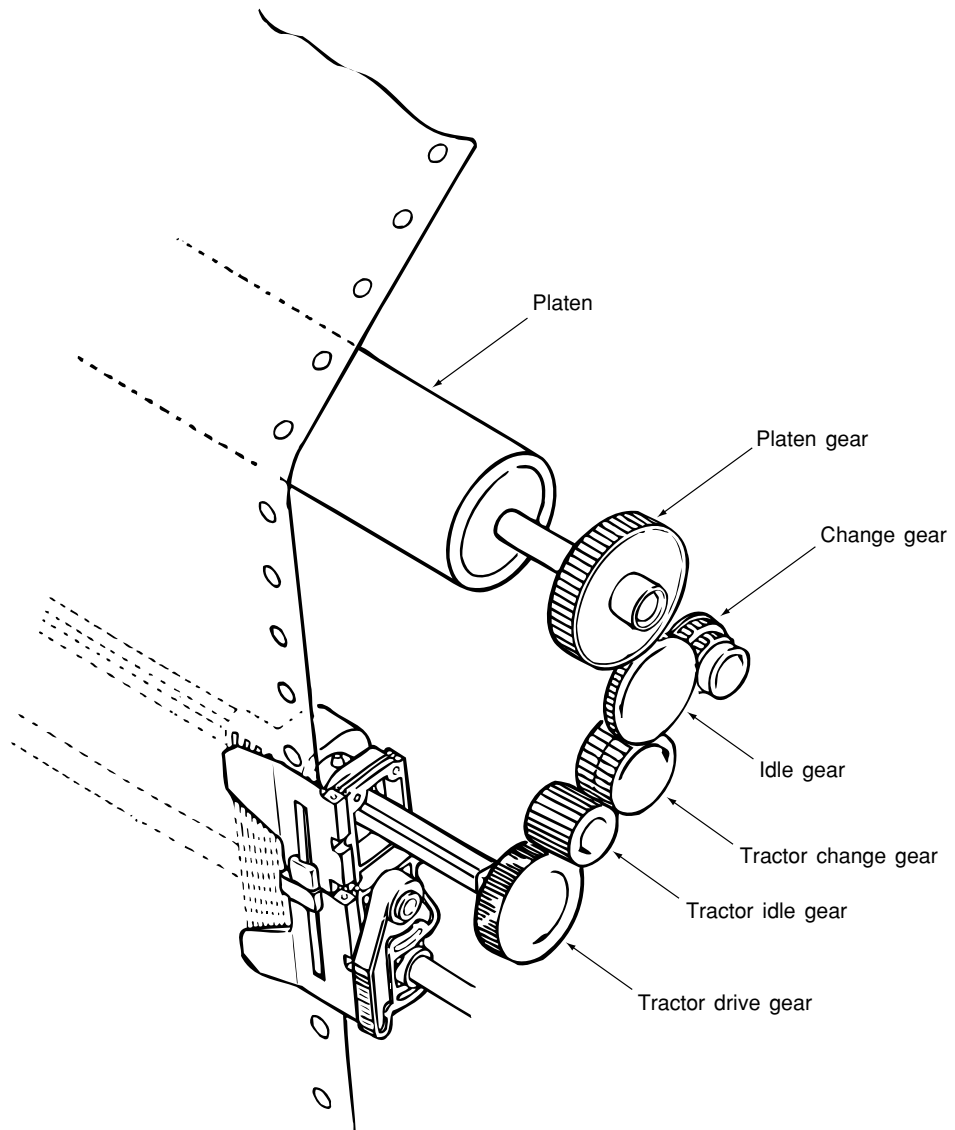

**Figure 2-12**
(5) Pull tractor mechanism (option) (See Figure 2-12.)